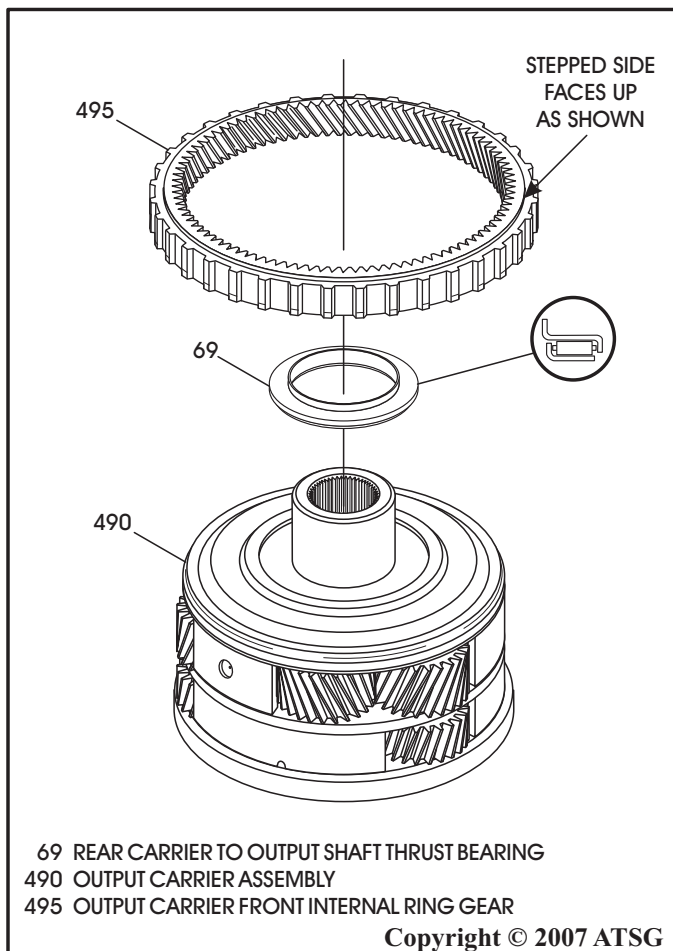

Figure 130
18. Place the pre-assembled rear planetary carrier assembly on flat work surface with the snap ring side facing down, as shown in Figure 130.
19. Install the output carrier to output shaft thrust bearing onto carrier in the direction shown in Figure 130.
20. Install the output carrier front internal ring gear onto the carrier with the stepped side facing up, as shown in Figure 130, and engage it with the bottom set of carrier pinion gears.